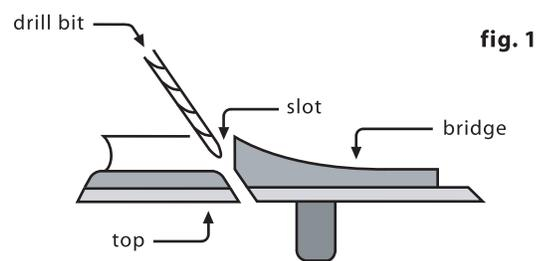

fig. 1
2. Remove the saddle to drill the hole for the pickup. The drill bit needs to be as large as the saddle slot will allow. Inspect the inside of the guitar and note the position of the braces in relation to the saddle slot. Drill at either end of the slot on the side that will enable you to avoid all braces as you penetrate the top, as shown in figures 1 and 2. Important: Round the inside of the hole where it meets the bottom of the slot with a small, sharp knife or a small file to avoid pinching the pickup as the saddle lies on it.